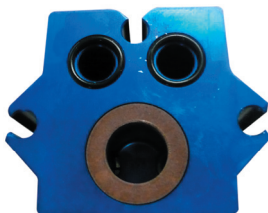

Figure 4
4. Place one wave washer, one spreader, two V-packings and one backing ring into bore. Figure 4 shows parts in bore.